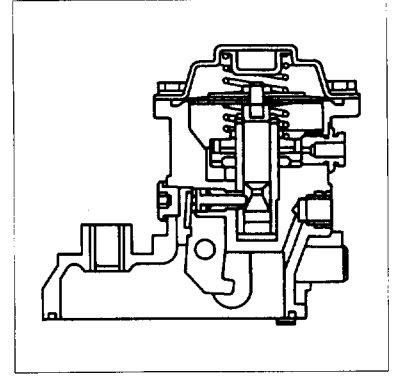

Fig.9-35
- ③ A spring is used at both top and bottom of the diaphragm to enable control of negative pressure. (Fig.9-35)
(3) Operation